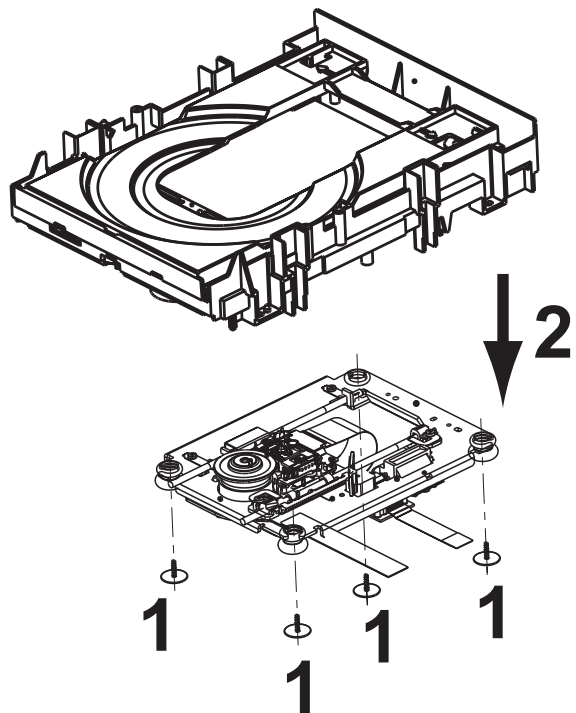

Figure 4-5 Remove DVDM
- Remove the four screws [1], see figure 4-5.